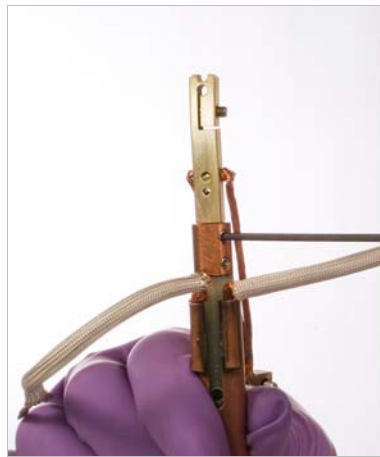

FIGURE 5-17 *Secure the probe mount to the probe arm*
3. Using the 1.5 mm hex driver, secure the probe mount to the probe arm by tightening the probe arm set screws (FIGURE 5-17).